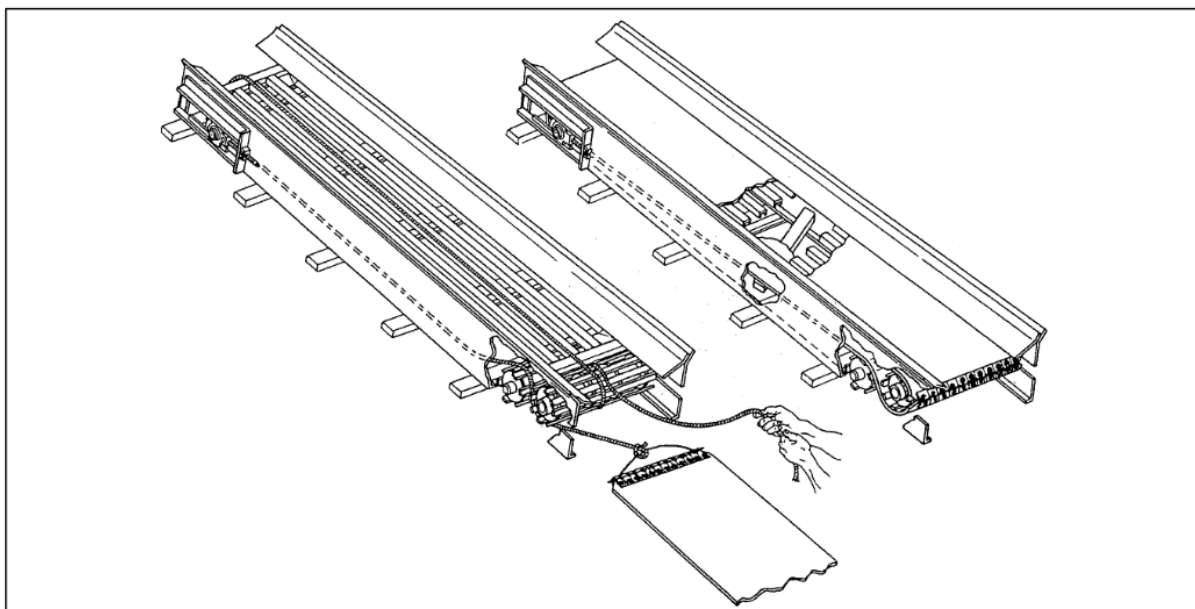

Figure 14 – #5 Belt Installation
12. Shut off all power and insert lumber under belt to support its weight as shown in Figure 14.